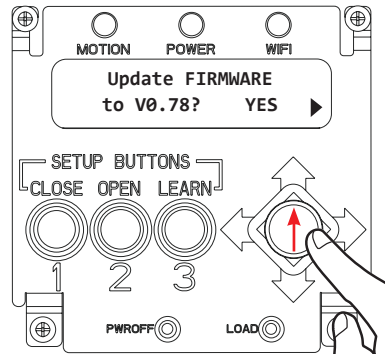

Figure 53
4. Once the Warnings have stopped, press up on the joystick to scroll to the Update FIRMWARE screen. (Figure 53)